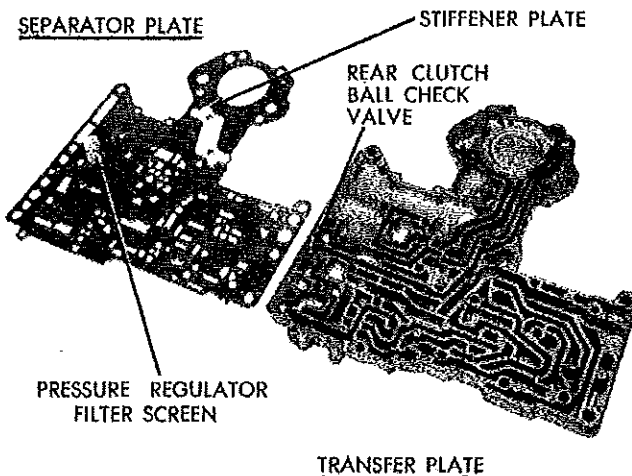

Fig. 16—Transfer and Separator Plate (A-904)
(2) Remove top and bottom screws from spring retainer and adjustment screw bracket.
(3) Hold spring retainer firmly against spring force while removing last retaining screw from side of valve body.
(4) Remove spring retainer, with line and throttle pressure adjusting screws (do not disturb setting) and the line pressure and torque converter regulator springs.
(5) Slide torque converter and line pressure valves out of their bores.
(6) Remove transfer plate retaining screws and lift off transfer plate and separator plate assembly.
(7) Remove (4) screws from stiffener and separator plate and separate parts for cleaning (Fig. 16).
(8) Remove rear clutch ball check valve from transfer plate and regulator valve screen from separator plate for cleaning.